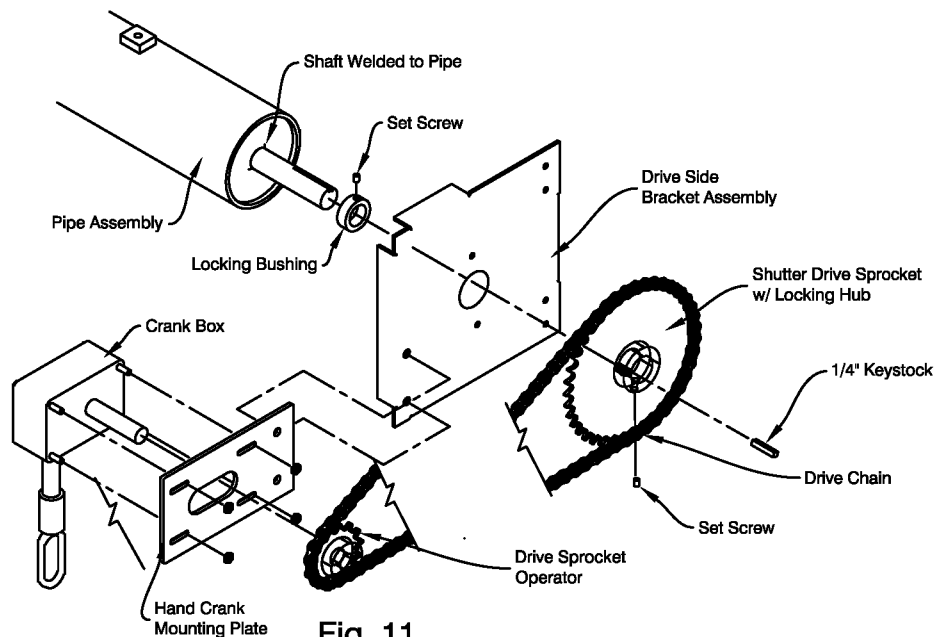

Fig. 11
c) Hand crank operation - Assemble the drive bracket on the drive side shaft of the pipe assembly (drive side is the side with the shaft welded to the pipe) as shown in Fig. 11. Lock all set screws in place. NOTE: Brackets are shown as right hand drive, left hand drive is opposite.